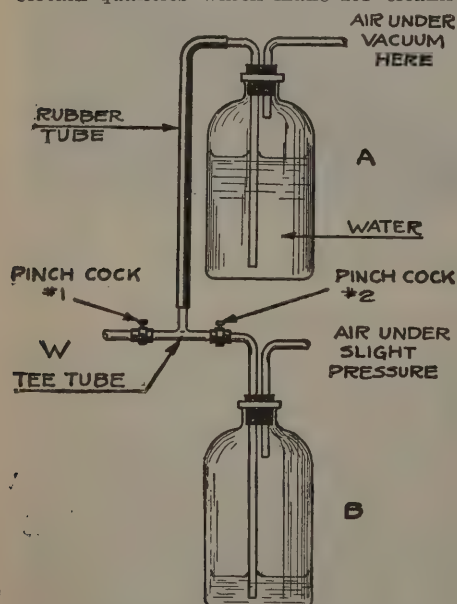

Fig. 1. Here's how to get water supply and air under slight pressure, even if running water is not available. Control is had by pinch-cocks (1) and (2).
The scheme shown in Fig. 1 can be used also. The bottle (A), full of water, is placed on the top shelf. By opening the pinchcock or pinch clamp No. 1 water will be delivered at (W), to a test tube, or other vessel. Opening pinch clamp